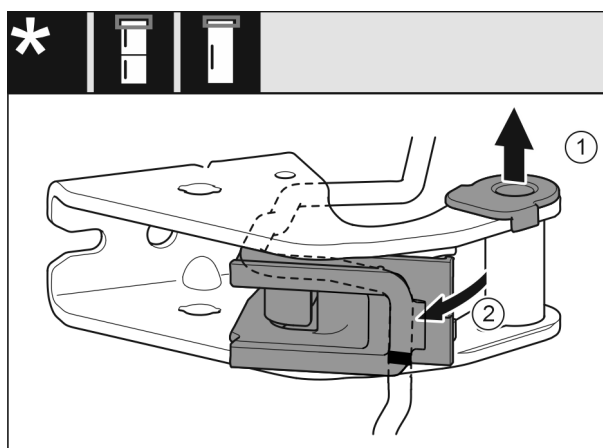

Fig. 27
- Pull the bearing bush Fig. 27 (1) out of the guide.
- Swivel the cable holder Fig. 27 (2) out.